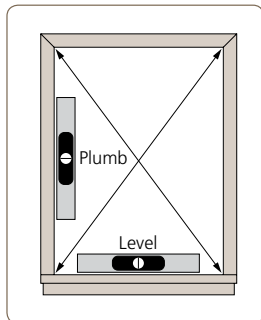

Fig. 1
- Level and plumb:** Place a level against the window opening jambs and determine if the window is level horizontally and plumb (see Fig. 1). The window should not be more than 1/8" out-of-level or plumb.